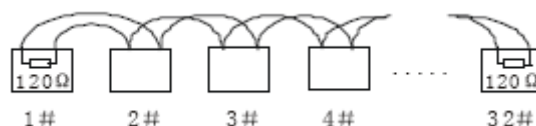

Figure 7-1
1) RS485 bus requires all devices use the following connection methods. Both terminals shall have $120\ \Omega$ resistance. See Figure 7-1.